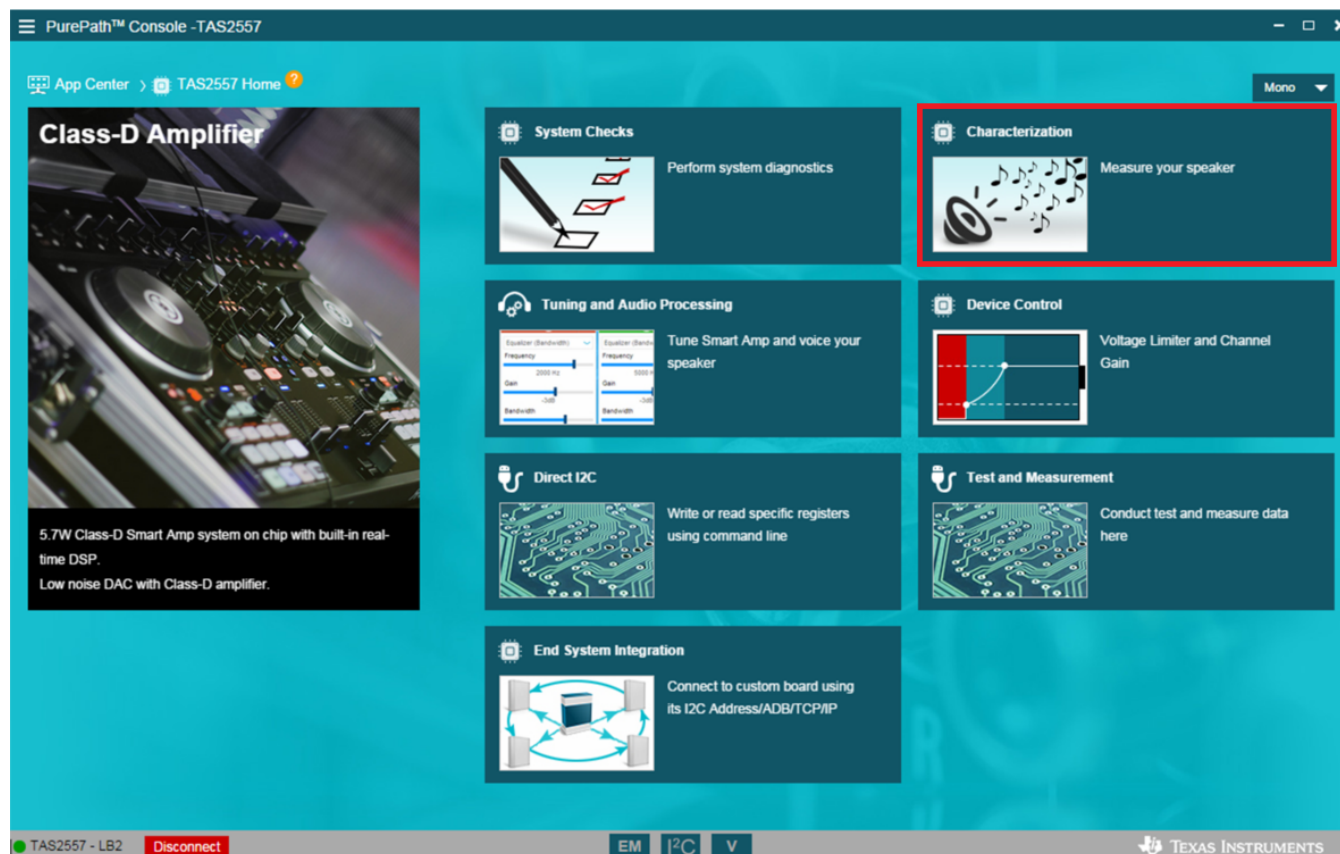
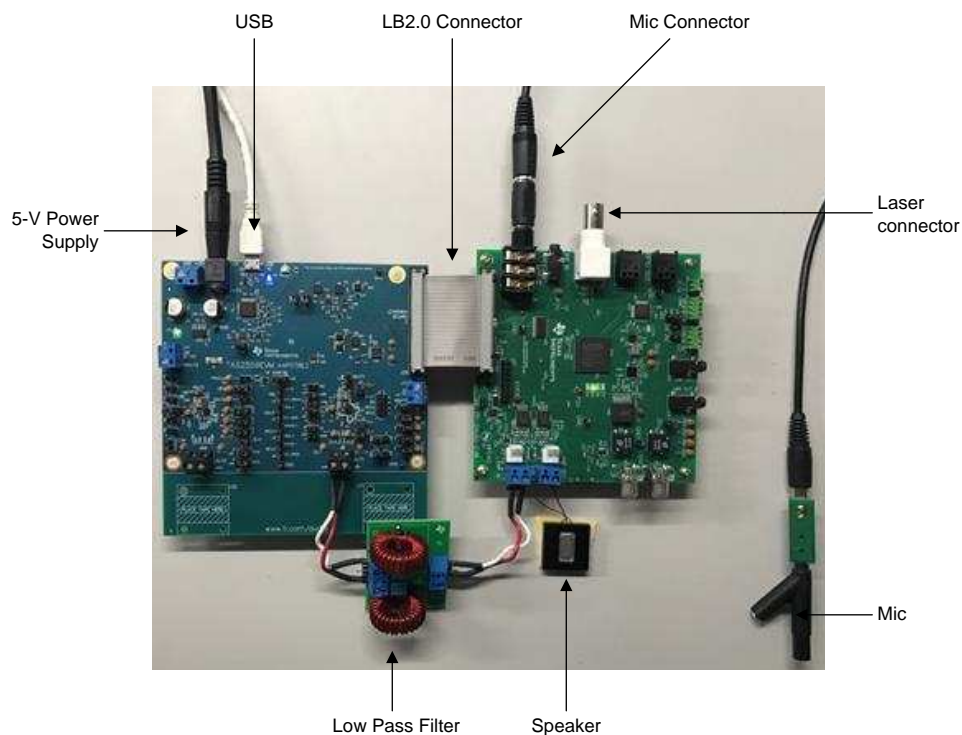

Figure 3. PPC3 Home Page
Figure 4. Hardware Setup
1. Select Characterization (shown in Figure 3) and follow the hardware setup shown in Figure 4.
NOTE: Verify the direction of the low pass filter that is shown in Figure 4.